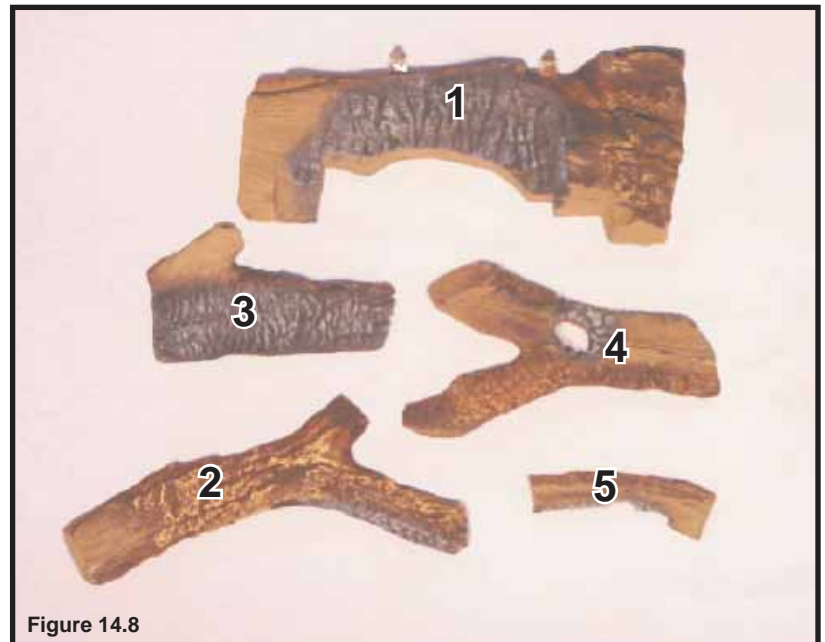

Figure 14.8
**CAUTION:** Logs are fragile! Carefully remove the logs, grate and supporting cardboard from the inside of the fireplace See Figure 14.8.